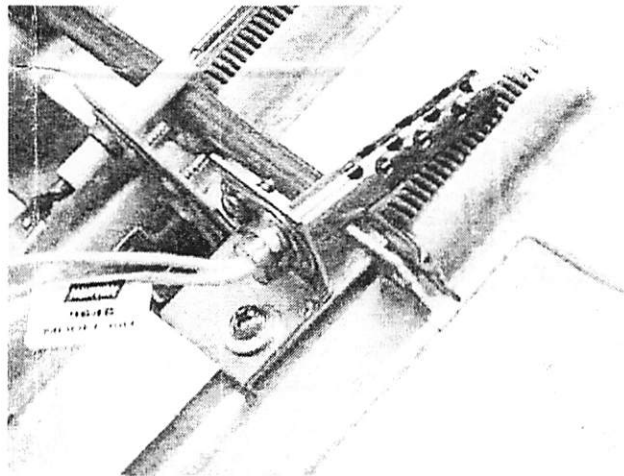

**FIGURE 1:** Proper Installation of Igniter & Bracket
7. Attach the new igniter to the new bracket with the hex head screw provided (021-16019-000). The correct bracket for these models is shown in Figure 1.
8. Carefully install the new bracket and igniter using the same path as used in removing the old bracket (a mirror can be helpful). The new bracket slides between the heat shield and the black burner support rod. The proper installation of the new igniter and bracket can be seen in Figure 1.